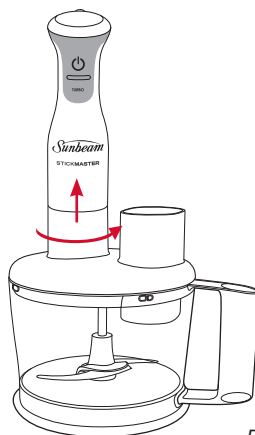

Figure 10
6. To detach the motor body, twist the shaft in an anti clockwise position until the motor body unscrews from the processing bowl. See Figure 10.